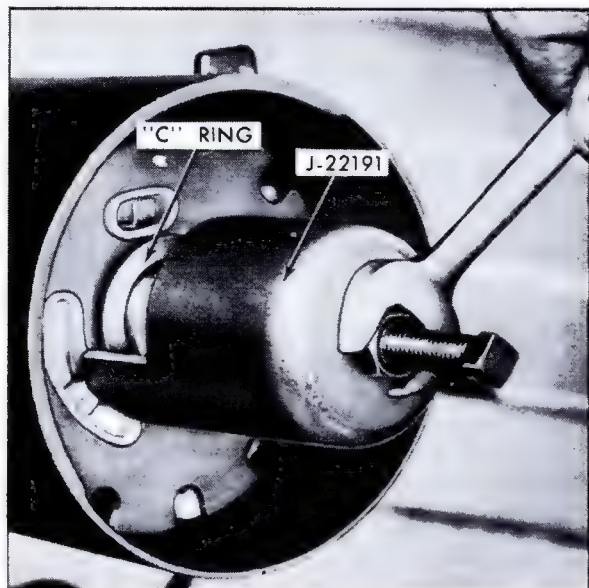

Fig. 9-52 Removing and Installing C-Ring (T & T)
3. Install spring compressor, J-22191, on steering shaft, Fig. 9-52.
4. Compress upper steering shaft preload spring and remove C-ring, Fig. 9-52.